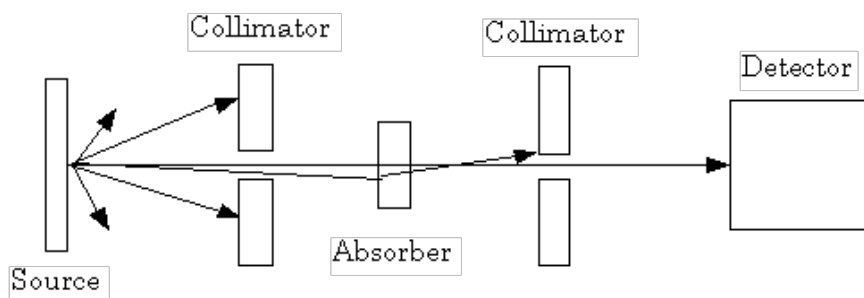

Figure 13: A diagram of Gamma-ray Spectroscopy
- (c) There should be two lead bricks with holes in them at the apparatus. Use these bricks as collimators (See Figure 13 below). The first collimator passes only photons that strike the absorber nearly perpendicular to its face. The second collimator is needed to absorb the gamma rays that have undergone small angle scattering from the absorber. If the angle is small enough these gamma rays might enter the detector and be counted as unaffected gamma rays. It is possible for gamma rays that are scattered by the collimators to reach the detector, but these are of such low energies that they do not affect your results significantly.